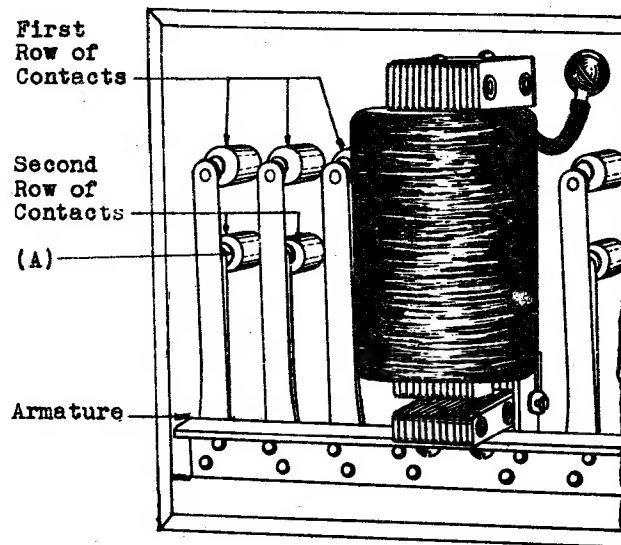

Fig. 6 - KS-7252 Relay
(b) For KS-7252 relays, the contacts in the second row shall make before the corresponding contacts in the first row make. (See Fig. 6 (A)).